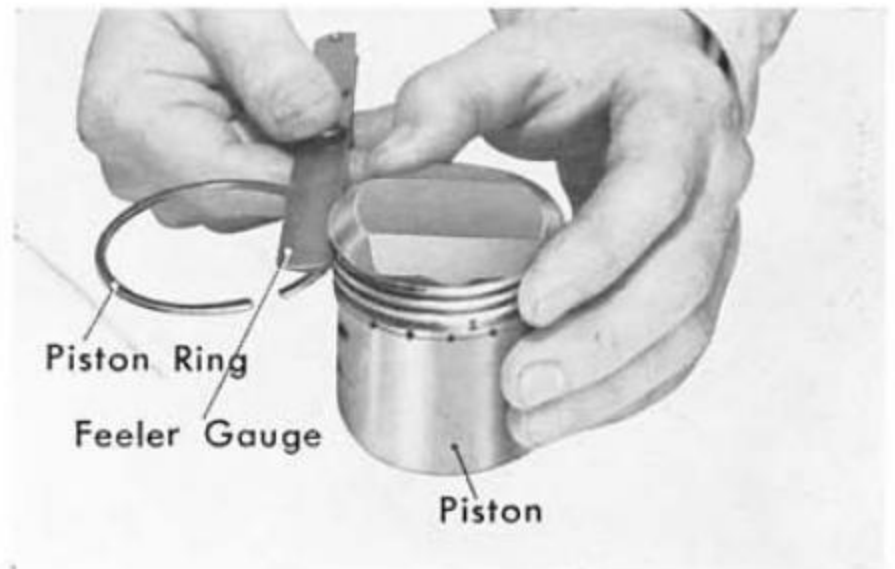

Fig. 1L-15
4. Inspect the piston ring side clearance (Fig. 1L-15).
Check ring tension (Fig. 1L-16) with the clearance of ring ends at: